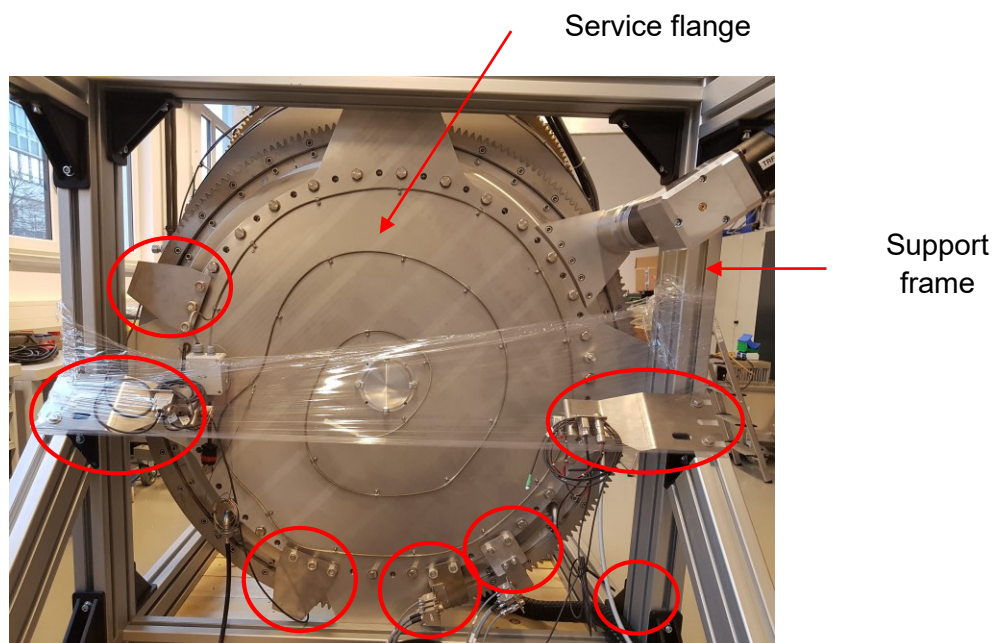

Figure 23: Screws to be removed.
9. In the next step, the TRF flange has to be disconnected from its support frame. At first, the angle brackets holding encoder cables, limit switches, etc must be detached from the supporting frame. The screws/nuts holding them are indicated in Figure 23. Please loose (only!) these screws/nuts and temporary fix the brackets at the TRF, for example with duct tape.